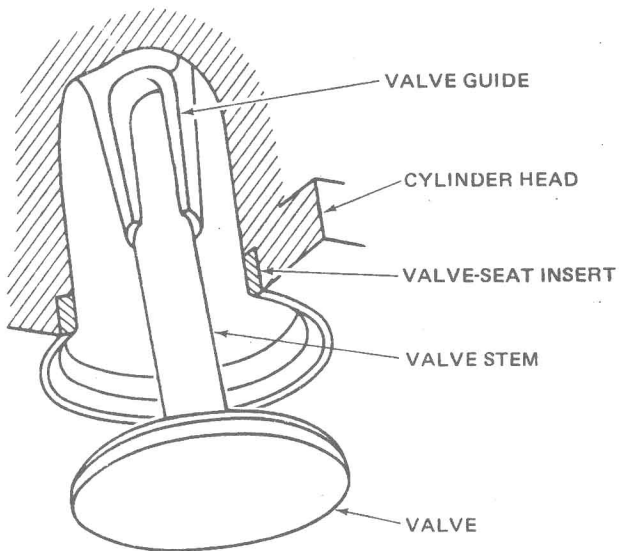

Fig. 1-13. Valve and valve seat in a cylinder head. The cylinder head and valve guide have been cut away so that the valve stem can be seen.
**1-6 Valves** There must be some means of getting the burned gasoline vapor out of the engine cylinder and of bringing fresh charges of gasoline vapor and air into the cylinder. The engine valves do this job. There are two openings, or ports, in the enclosed end of the cylinder, each containing a valve. The valves are accurately machined plugs on long stems. When they are closed, or seated (that is, moved up into the ports), the ports are sealed off and gas cannot pass through the ports. When the valve is open (as shown in Fig. 1-13), gas can pass through the port.